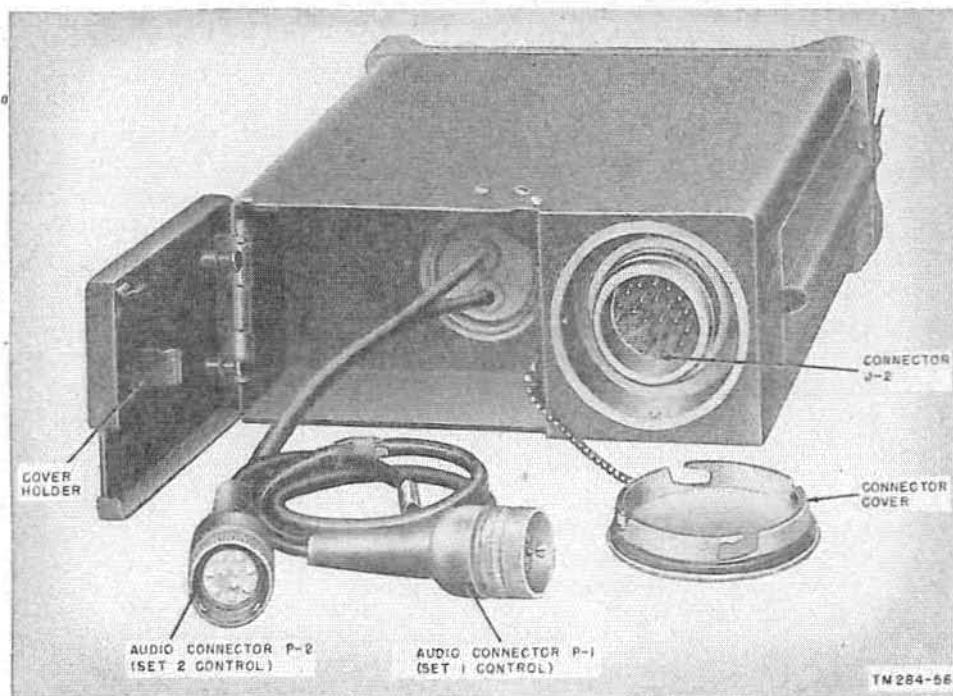

Figure 30. Local Control C-434/GRC, rear view.
c. Remove the protective cover plate from the plug at the rear of the local control unit. Open the hinged door to the right of the plug and store the cover in the clamp provided within the compartment (fig. 30).
j. Replace the protective cover on the plug at the rear of the local control unit and connect the units to Sets 1 and 2 by means of the cables and plugs in the compartment at the rear of the unit. Plugs P-1 and P-2 (fig. 30) connect to AUDIO connectors on Sets 1 and 2, respectively.